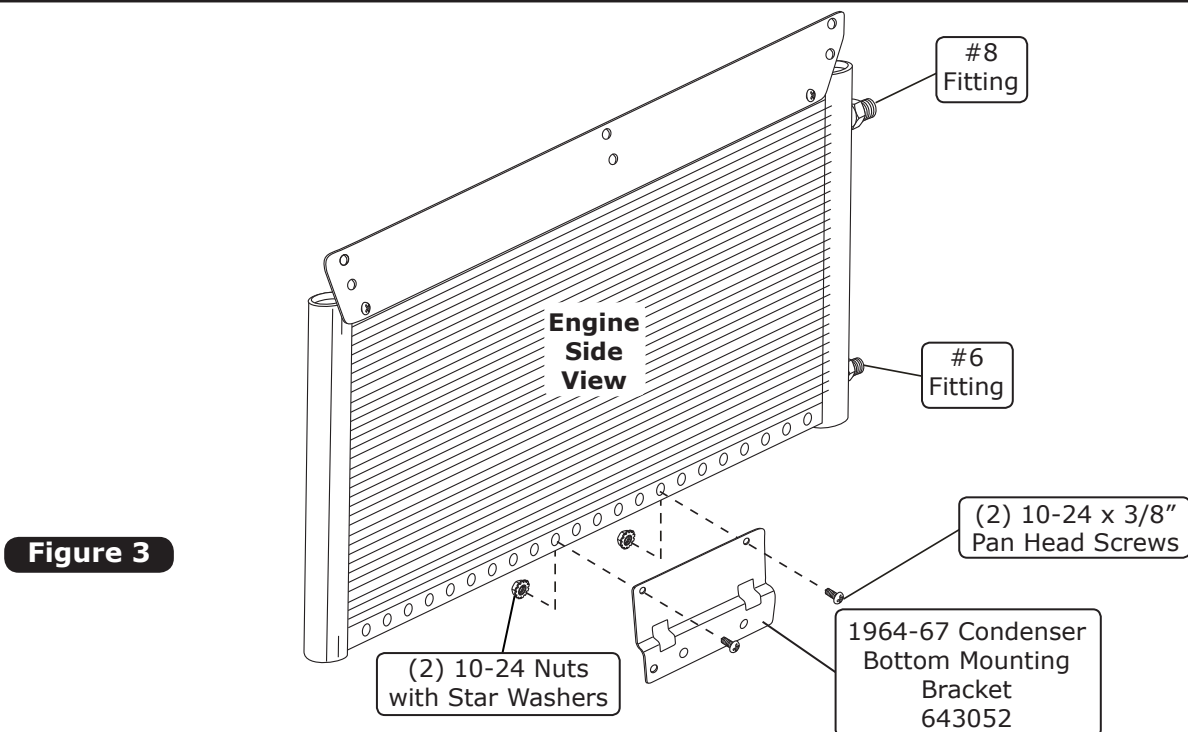

Figure 3
1. Install the bottom mounting bracket onto the condenser using (2) 10-24 x 3/8" pan head screws and (2) 10-24 nuts with star washers (See Figure 3, below). **NOTE: The bracket mounts through the 10th & 15th holes from the left side of the condenser.**